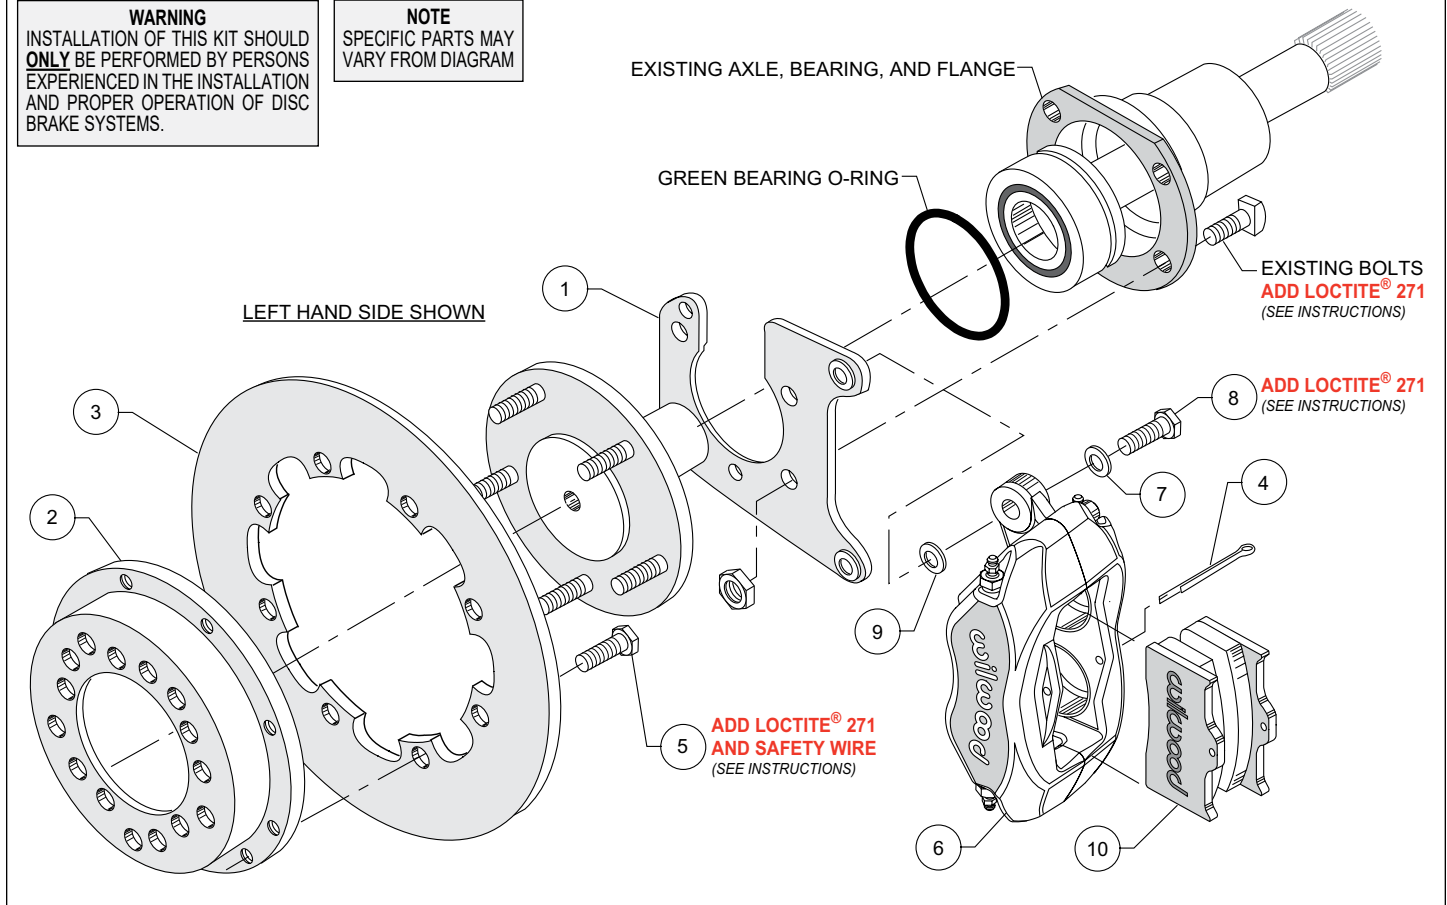
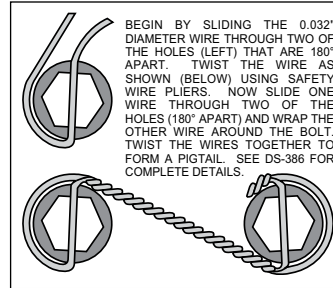
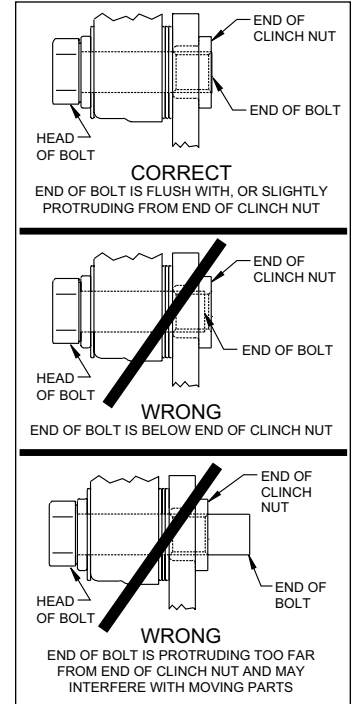

Figure 4. Typical Installation Configuration
Figure 7. Safety Wire Diagram
Figure 8. Clinch Nut Engagement Diagram
NOTE: Numbers in parenthesis refer to the parts list and Figure 4 on the preceding pages.
CAUTION: All mounting bolts must fully engage clinch nuts. Be sure to check that all bolts are either flush or protruding through flanged side of clinch nut after shimming, Figure 8.
- Orient the bracket assembly (1) as shown in Figure 4 and install it onto the axle to retain the bearing. Ensure that the bracket assembly plate fits flush against the axle housing flange. Secure
bracket assembly to the axle housing flange using the Original Equipment Manufacturer (OEM) bolts and nuts, Figure 4. Stock OEM hex nuts that retain the bracket (1) should be on the wheel side of the bracket. Apply red *Loctite*® 271 to the OEM bolt threads and torque to OEM specifications. **NOTE:** Make sure the heads of the caliper mounting bracket insert nuts (1) are FACING OUTWARD TOWARDS THE WHEEL, see Figure 4.
- Orient the rotor (3) and the hat (2) as shown in Figure 4. Attach rotor to hat using bolts (5). Apply red *Loctite*® 271 to the bolt threads and torque to 25 ft-lbs using a criss-cross pattern. Safety wire bolts (5) using standard 0.032 inch diameter stainless steel safety wire as shown in Figure 7. Please refer to Wilwood's data sheet DS-386 (available at www.wilwood.com/Pdf/DataSheets/ds386.pdf) for complete safety wire installation instructions.
- Align the correct hole pattern in the hat (2) with the stud pattern on the axle flange and slide into place, Figure 4. **NOTE:** The rotor/hat must fit flush against the axle flange or excessive rotor run out may result. Install three lug nuts (finger tight) to keep the rotor/hat assembly in place while continuing with the installation. **NOTE:** Some OEM and after market axles come with stud sizes larger than 0.50" diameter. Verify stud size and have a qualified machine shop drill the bolt circle of the hat/rotor to the correct stud size, if necessary.
- NOTE:** Please reference the caution statement at the beginning of the assembly instructions. Mount the caliper (6) onto the caliper mounting bracket (1) using bolts (8) and washers (7), as shown in Figure 4. Initially place one .032" thick shim (9) on each bolt between the caliper and the bracket, Photo 1. Temporarily tighten the mounting bolts and view the rotor (3) through the top opening of the caliper. The rotor should be centered in the caliper, Photo 2. If not, adjust by adding or subtracting shims between the bracket and the caliper. Always use the same amount of shims on each of the two mounting bolts. **NOTE:** The end of each bolt must be flush with or slightly protruding from the head of the clinch nut, as shown in Figure 8. If necessary place spare shims between washer (7) and caliper mounting ear to achieve the proper clinch nut engagement. Once the caliper alignment and clinch nut engagement are correct, remove the bolts one at a time, apply red *Loctite*® 271 to bolt threads, and torque to 40 ft-lb. Caliper mount bolts may be safety wired for additional security.
- Install the disc brake pads (10) into the caliper, with the friction material facing the rotor (3), and secure in place using cotter pin (4), Photo 3.